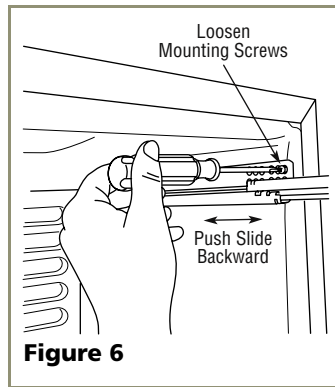

Figure 6
3. Retighten the screws. See **Figure 6**.